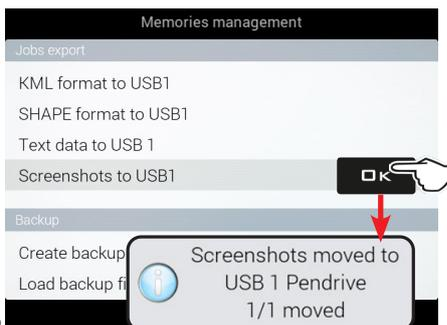

Fig. 290
- Select **Screenshots to USB 1** (Fig. 290) and press **OK**.